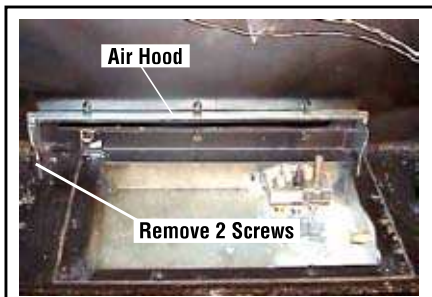

Figure 7 EDVI30
8. (EDVI30 only) Remove the two screws shown in **Figure 7**, then lift out air hood.